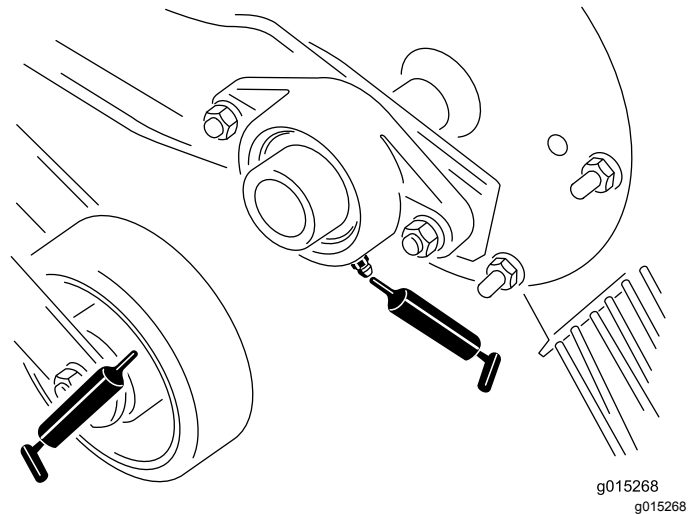
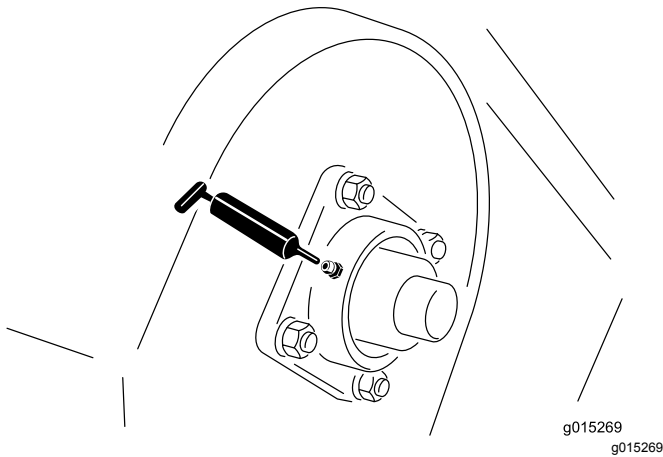
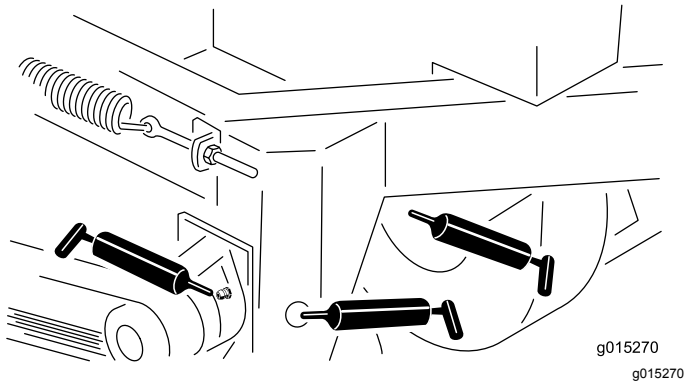

Figure 11
Figure 12
Figure 13
2. Pump grease into the bearing or bushing (Figure 11, Figure 12, and Figure 13).